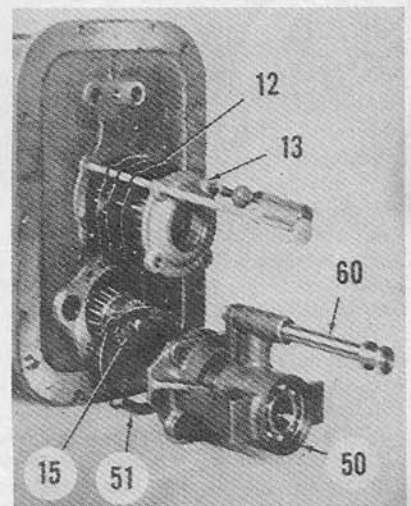

Fig. F36—Rear face of TO transmission housing showing shims (12) for adjusting the main shaft bearings and shims (51) for adjusting the countershaft bearings.
If it becomes necessary to adjust the main shaft bearings after renewing the pilot bearing, separate the transmission case from rear axle center housing, as shown in Fig. F36. Adjust main shaft bearings to the desired preload as outlined in paragraph 84, by means of shims (12) interposed between outer rear wall of transmission case and main shaft bearing carrier (13).
To adjust countershaft bearings to a slight preload, first torque tighten the bearing carrier cap screws to 24-28 foot pounds. For transmissions with a cast iron housing, the correct bearing preload, which is 7-12 In.-Lbs. of torque required to rotate the shaft, can be obtained by adding or removing shims (51—Fig. F36) interposed between transmission rear wall and countershaft rear bearing carrier.